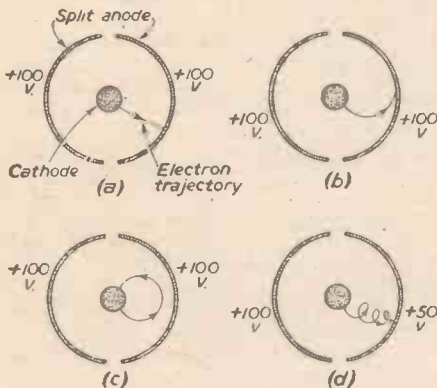

Fig. 21.—(a) No magnetic field; (b) Weak magnetic field; (c) Strong magnetic field; (d) Magnetic field and unequal voltage on anode halves.
1. The negative resistance magnetron has many of the disadvantages of the triode oscillator when used for high frequency operation in that it only operates efficiently at frequencies the oscillation period of which is lower than the transit time. If the two halves of the anode are at the same potential the anode behaves as though it were not split and electrons ejected from the cathode would, in the absence of an axial magnetic field, travel to the anode as shown in Fig. 21(a). When the magnetic field is present, however, the electron paths are as shown in Fig. 21(b), and 21(c). Fig. 21(b) shows the paths for a weak magnetic field and Fig. 21(c) for a more powerful magnetic field. If the potential of the anode halves are unequal the magnetic field tends to direct the electrons toward the anode half at the low potential. Thus the low potential results in an increase of electrons, i.e., current flow. If this current flow is plotted against the voltage across the anode
halves, the graph has what we term a negative resistance slope, because increased volts give a decrease in current. Oscillations are maintained by the negative resistance characteristic between the anode halves, and a typical electron path under operating conditions is shown in Fig. 21(d). For a more detailed description of this very complex phenomenon the reader is directed towards reference six in the bibliography.